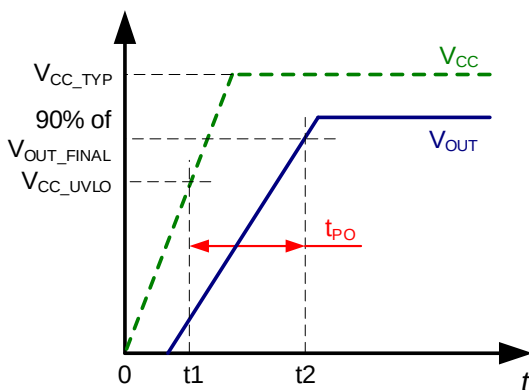

Figure 5: Power-On Time (t_{PO})
2. t_2 : V_{OUT} reaches 90% of its final value (V_{OUT_FINAL}) under an applied I_P (see Figure 5).